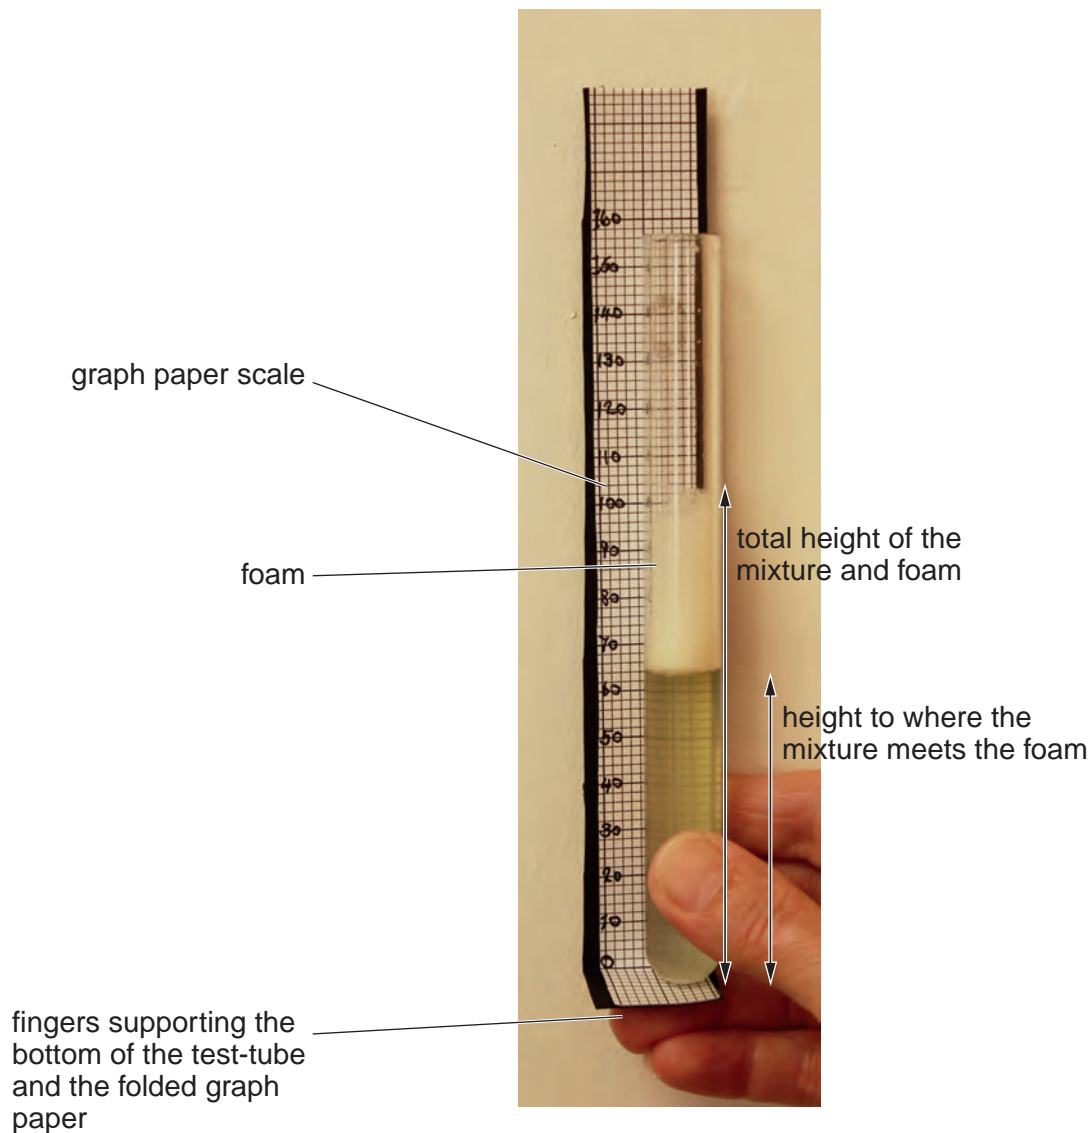

Fig. 1.2
You are required to measure the release of oxygen by measuring the total height of the mixture and the foam **and** the height to where the mixture meets the foam, as shown in Fig. 1.2.
You are provided with a graph paper scale on a piece of card. Fig. 1.2 shows how to use the graph paper scale to measure the total height of the mixture and foam **and** the height to where the mixture meets the foam.
2. Fold the graph paper scale along one of the thicker lines and label this line 0 as shown in Fig. 1.2.
You may find it useful to label each 10mm as shown on Fig. 1.2.
7. Hold the test-tube as shown in Fig. 1.2.